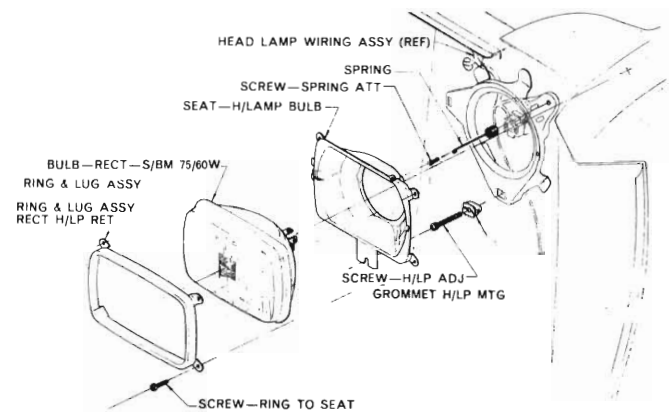

Fig. 5 - Rectangular headlamps (exploded view)
**Rectangular Headlamps (see Fig. 5)**
- (1) Remove the two screws holding the inner pressed metal bezel to the grille.
- (2) Remove the two screws that retain the upper portion of the outer headlamp bezel to the panel above the grille.
- (3) Reach under the front bumper bar and remove the nut from the stud in the lower edge of the outer bezel.
- (4) Pull the outer bezel forward and away from the front of the car until the stud in the lower edge of the bezel clears the body panel.
- (5) Remove the inner and outer bezels.
- (6) Unscrew the four screws that retain the headlight retaining frame.
- (7) Remove the sealed beam from the fender well and pull the wire connector from the unit.
- (8) Fit the new sealed beam and assemble by reversing the above procedure.
- (9) Re-check headlamp aiming if necessary.